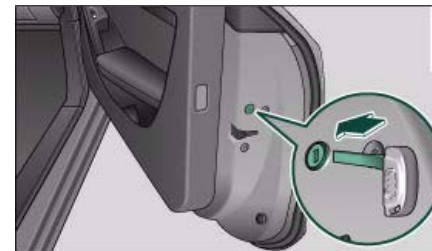

Fig. 41 Door: Locking the door manually
- Pull the cap out of the opening ⇒ fig. 41.